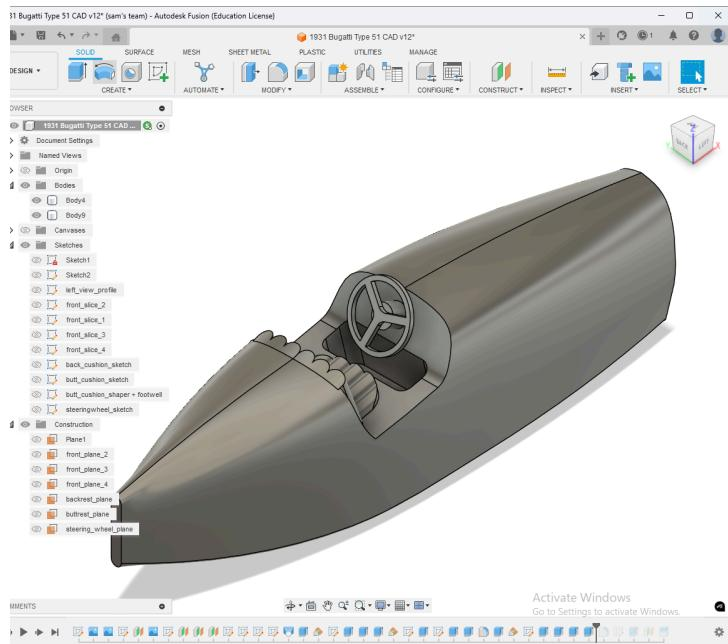

Fig. 17: Steering wheel implementation
6. Using the plane of the dashboard as a starting point, the steering wheel can be designed. Again, these details are purely aesthetic, so the dimensions and particular design is subject to your tastes and preferences. **Fig. 17** shows a simple steering wheel configuration.